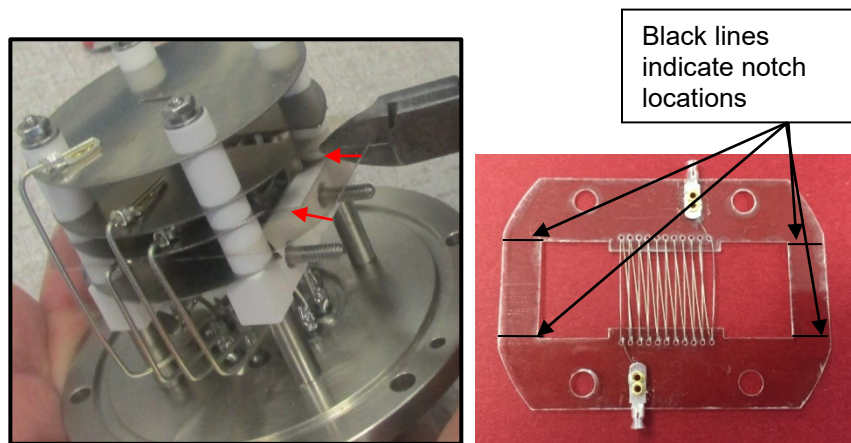

Fig. 4.1
3. Notch the repeller plate at both filament locations using clippers or a sharp pair of scissors as shown figure 4.1.